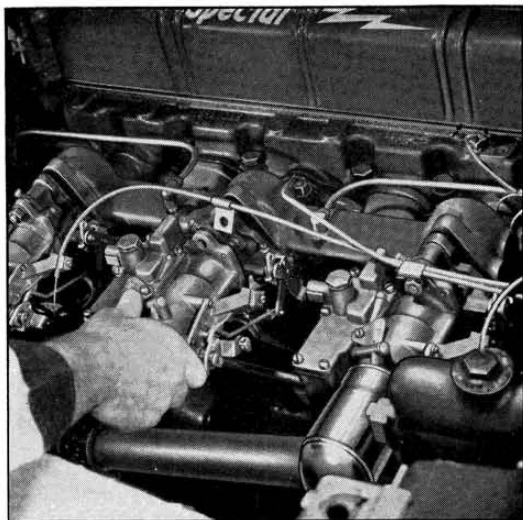

Fig. 2
8. Remove carburetor from intake manifold (fig. 2).